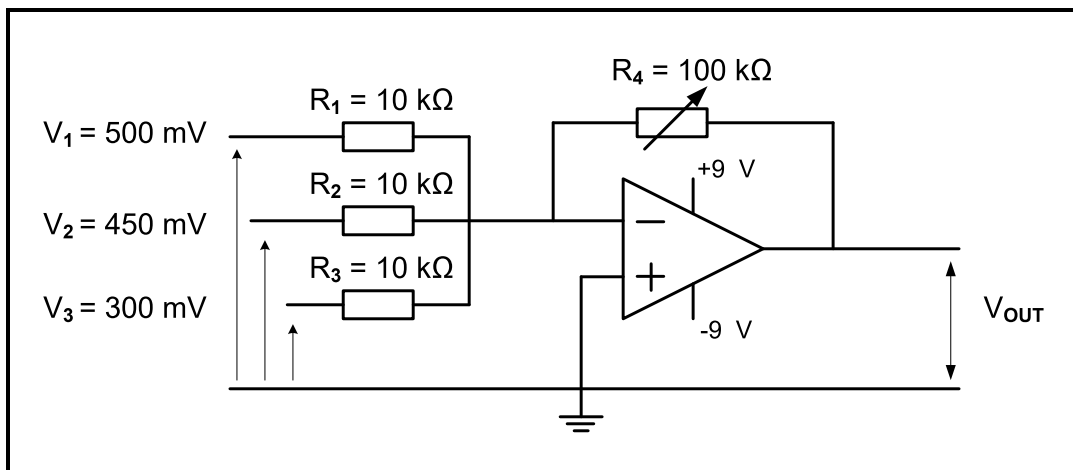

FIGURE 3.8: SUMMING AMPLIFIER
- 3.8 FIGURE 3.8 below shows the circuit diagram of an inverting summing amplifier. Answer the questions that follow.